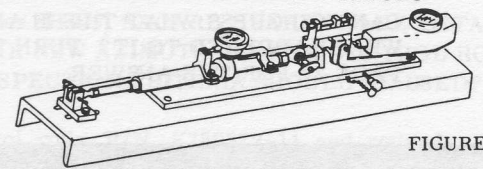

FIGURE 3
1. Fixture Mounting Instructions-K604621-101 (Figure 3)